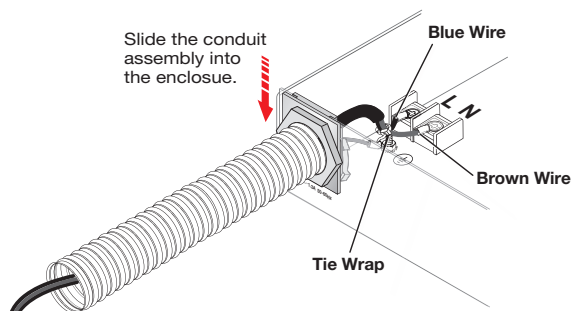

Figure 13. Install the Conduit Assembly
9. Install the conduit with the new conduit plate attached into the opening from which the IEC connector was removed in step 5 (see figure 13).
10. Connect the blue hot (line) and brown neutral wires to the terminal block on the PCB using the 2 screws that were removed in step 3. Use the included zip tie wrap to secure the two wires together close to the terminals (figure 13).